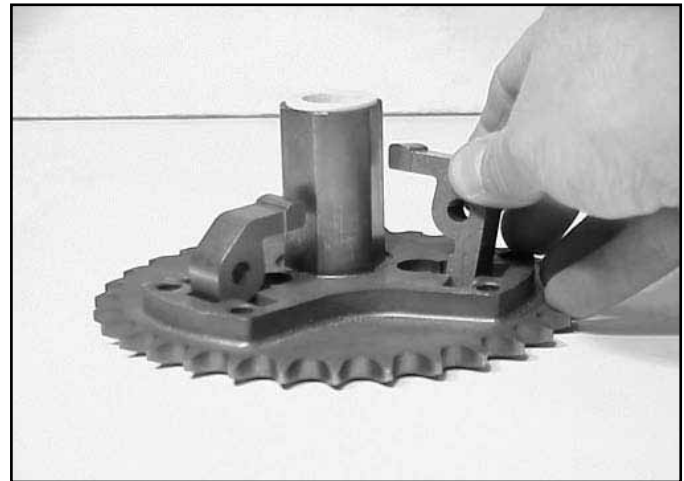

Fig 190
1. Set the 32-tooth gear on a flat surface and install pawls. Apply a light coat of oil Toro part no. 505-5 to dowel pins then install dowel pins into the pawl assembly (Fig. 190).